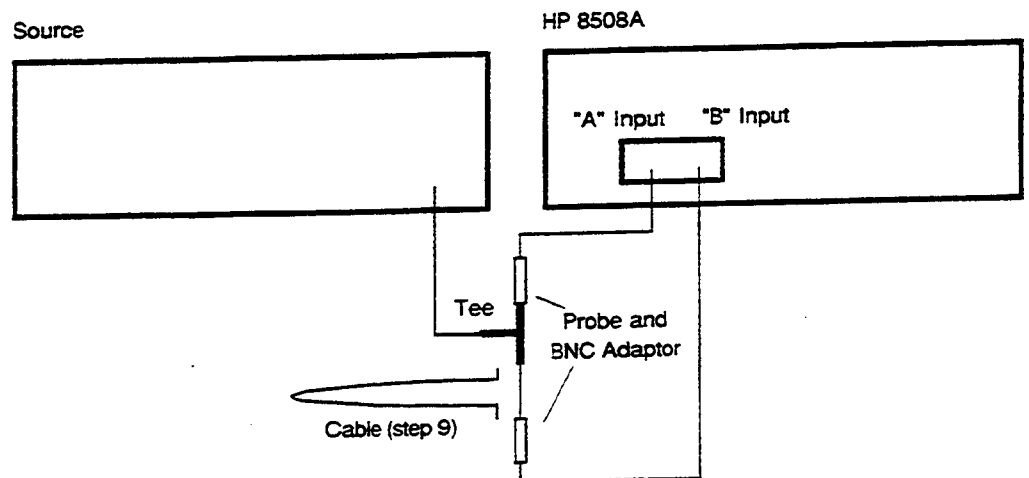

Figure 4. Two Probe Connection
- 9. RELATIVEMEASUREMENT** Now insert the cable as shown in Figure 4. The readings are now of the voltage ratio and phase difference caused by the cable, using the reference set in step 8. Select [DISPLAY] dB to read the cable insertion loss in dB. The phase difference can be used to calculate the cable's electrical length.